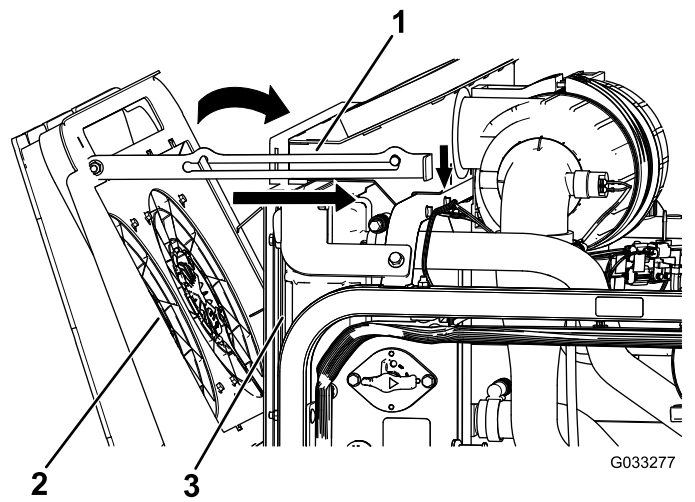

Figure 120
4. Pivot the engine-cooling fans forward and lock the prop rod into the notch (Figure 120).